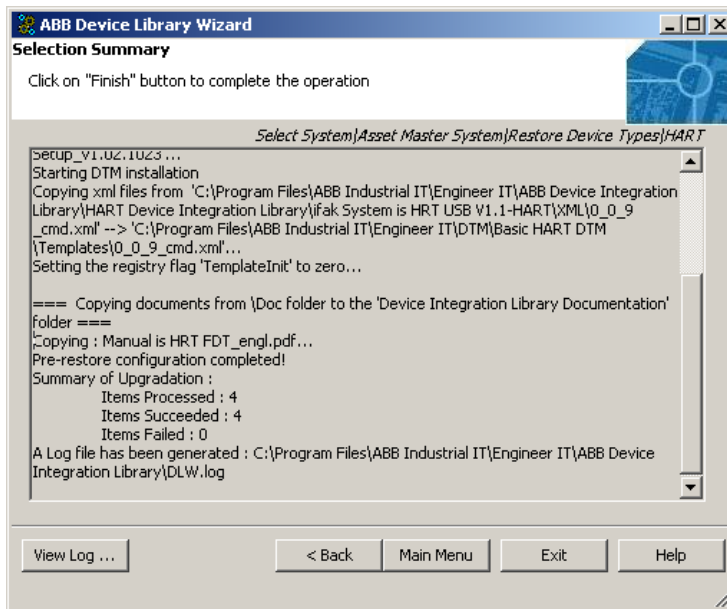

Figure 72. Restore Process Summary Report
- Once the DTM installation is complete, a screen similar to the one shown in Figure 72 is displayed, with a summary report of the restore process. Errors if any, during the restore process, are displayed in the report.